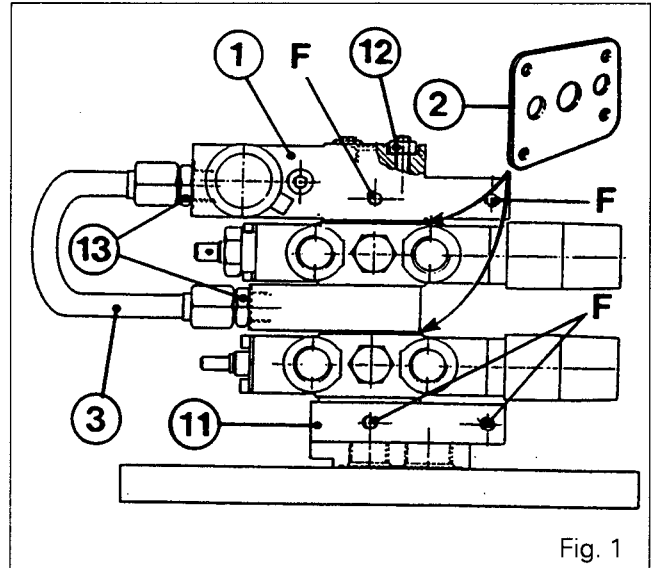

Fig. 1
**Assembly procedure (Fig. 1 and 2)**
1. For correct assembly of the plates (2) and seals each spool valve must be disassembled and reassembled vertically with the end plate (11) at the bottom.
2. Screw on the nuts (12) until they touch the intake block (1).
4. Tighten the nuts (12) to a torque of 17 - 20 Nm.
5. Fit the connectors (13) and the pipe (3), then tighten them to a torque of 50 Nm.